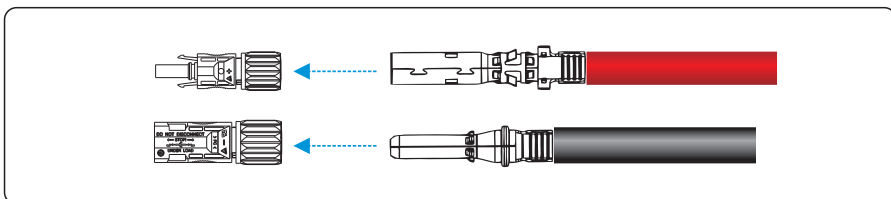

Figure 5.14 Connecting positive and negative connectors
**Step 3** Insert the crimped positive and negative power cables into the corresponding positive and negative connectors until a "click" sound is heard, as shown in Figure 5.14.